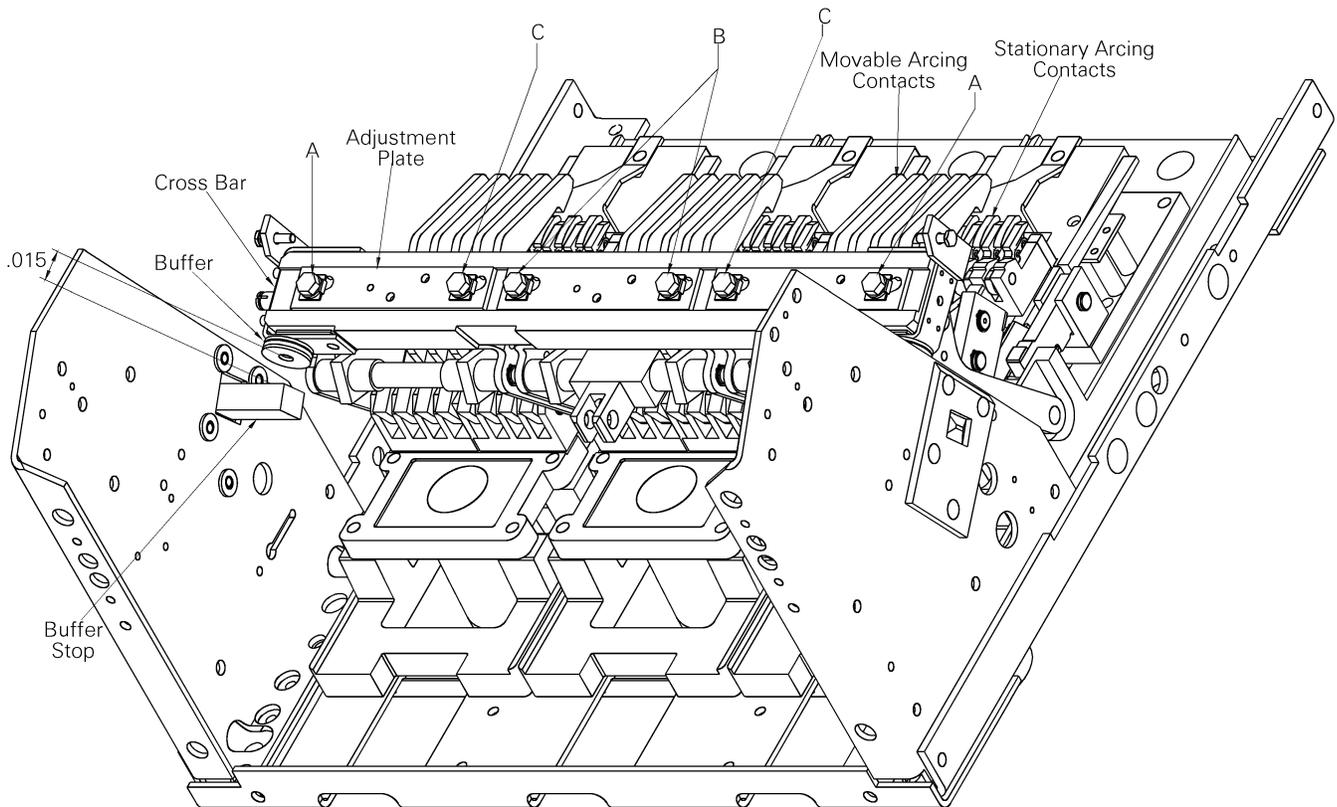

Figure 23. Assembly and adjustment of the cross bar.
1. Loosen the cross bar bolts, shown in Figure 23, so that the link can move freely.
For these procedures, refer to Figure 23.
2. Verify that the buffer assemblies on the ends of the crossbar, as illustrated in Figure 23, are touching. With the breaker contacts open, there should be no more than a 0.015-inch gap on one end when the buffers on the other end are touching. If necessary, adjust this dimension by adding or removing washers under one of the buffers.
The difference between making of the arcing contacts on different poles must be no greater than 0.06 inch. To advance or retard the closing of all contacts on a pole, loosen the bolts holding the adjusting plate of that pole, illustrated in Figure 23, then slide the plate to the left to advance contact closing or to the right to retard closing. Make this adjustment on the outer poles, using the center pole as a reference.